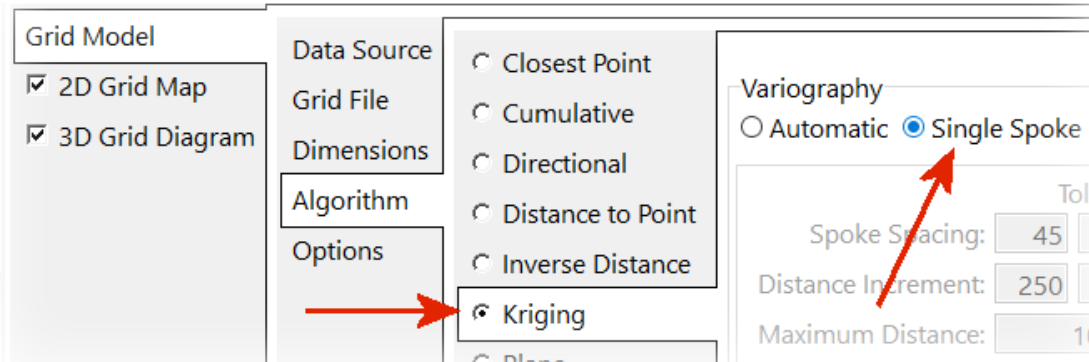

Figure 11
- Set the interpolation *Algorithm* to *Kriging / Single Spoke* (Figure 11).